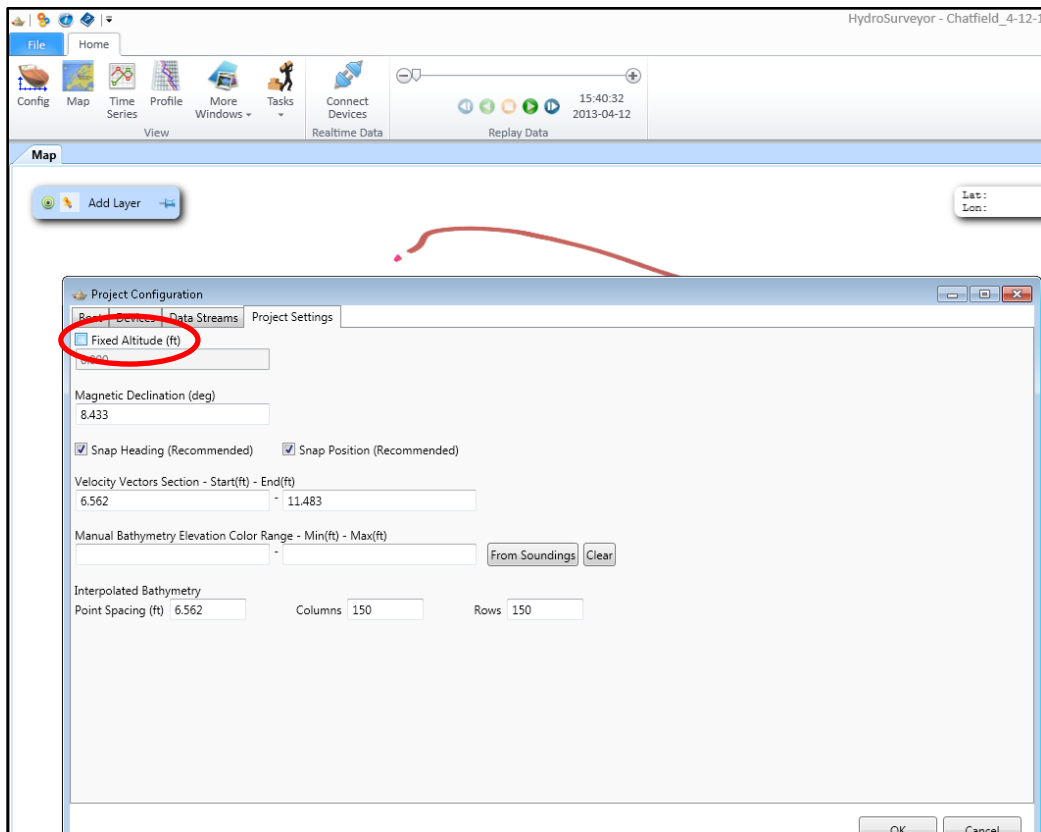

Figure 10.—In the SonTek HydroSurveyor software, verify that “Fixed Altitude” is *not* selected prior to the soundings export.
1. Soundings must be exported as elevations, not depths. Thus, verify that the “Fixed Altitude (ft)” check box is *not* selected within the “Project Settings” tab under the “Project Configuration” menu (figure 10).